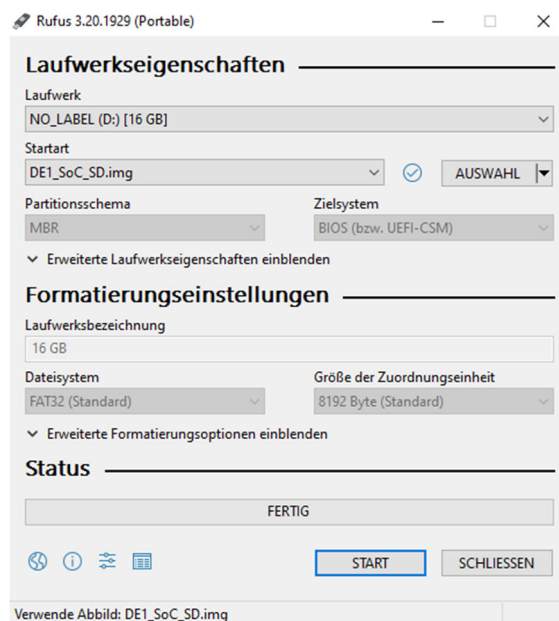

Fig. 3.2: Using *Rufus* [34] under *Windows 10* to copy an image on a *microSD* card.
We have to copy a *Linux* [30] image on the *microSD* card [33]. First download the file *DE1_SoC_SD.zip* (66 495 KB) from [34] und unpack the required image named *DE1_SoC_SD.iso* (1 899 724 KB) as detailed in the “*DE1-SoC Getting Started Guide*” [35]. Then a Software like *Rufus* [36] can be used on the *Microsoft Windows 10* [37] operating system (OS) to copy the image bit-accurate on the *microSD* card as illustrated in Fig. 3.2. Use button “*Auswahl*” to select the image *DE1_SoC_SC.img*. Click on button *START* to write the image on the *microSD* card, click on *SCHLIESSEN* to quit the *Rufus* Software.